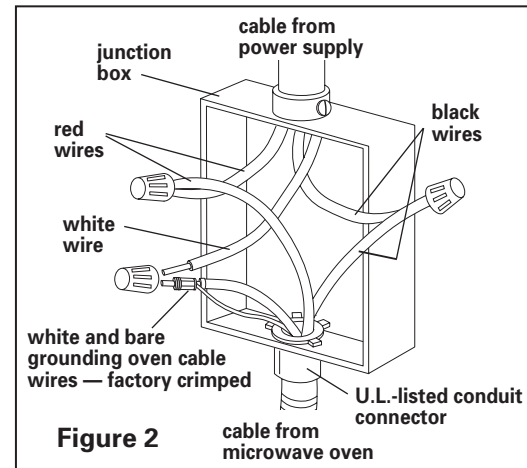

Figure 2
7. Connect the factory-cripped bare and white oven cable wires to the neutral (white) wire in junction box. See Figure 2.